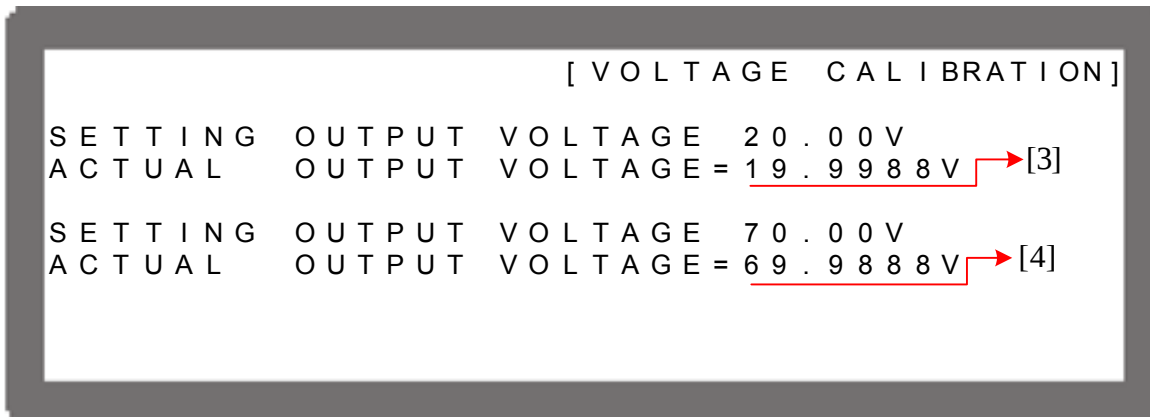

Figure 3-101
7. Press “” to do the high voltage range calibration (80V), the instrument will set the output voltage to 20.00V first and the cursor is stop at position [3] as Figure 3-101 shows. Enter the voltage measured by DVM (4 digits after decimal point) and press “” to confirm.
as Figure 3-101 shows. Enter the voltage measured by DVM (4 digits after decimal point) and press “” to confirm.